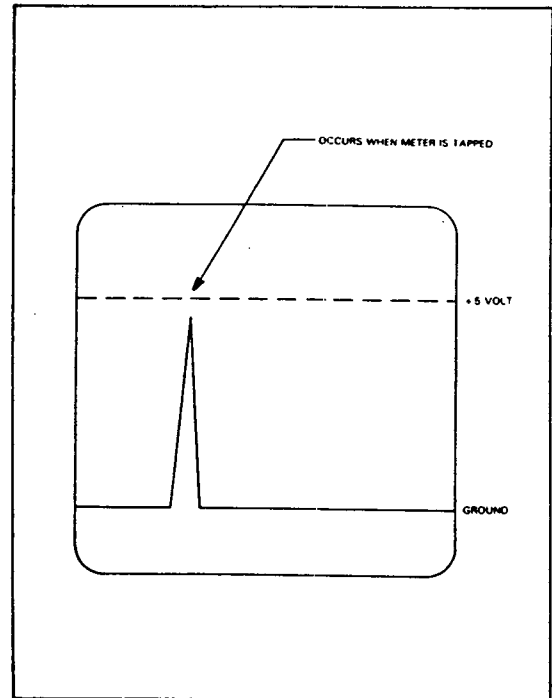

Figure 2
8. If the display line jumps towards +5 volts or exhibits the characteristics shown in figure 2, the meter has unreliable internal connections and should be replaced.